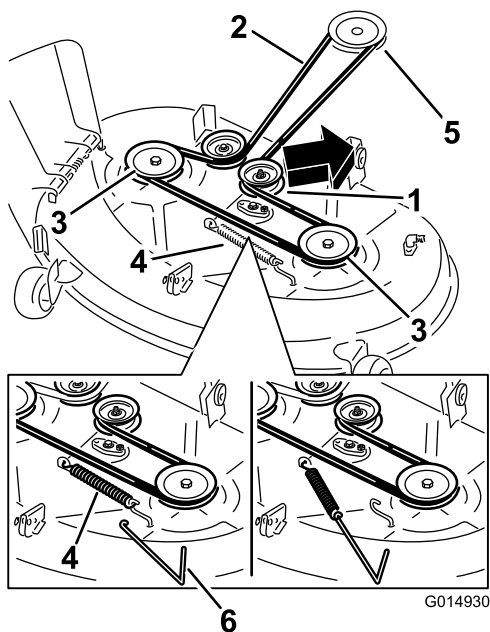
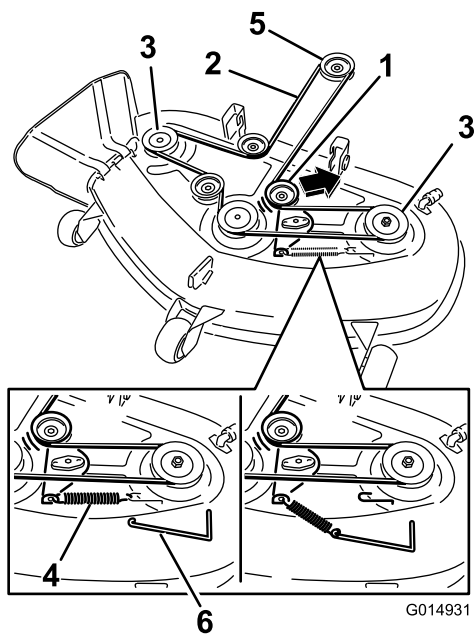

Figure 59
Figure 60
- Using a spring-removal tool, (Toro part no. 92-5771), remove the idler spring from the deck hook to remove tension on the idler pulley and roll the belt off the pulleys (Figure 59 and Figure 60).
5. Route the new belt around the engine pulley and mower pulleys (Figure 60).
6. Using a spring-removal tool, (Toro part no. 92-5771), install the idler spring over the deck hook and placing tension on the idler pulley and mower belt (Figure 59 and Figure 60).